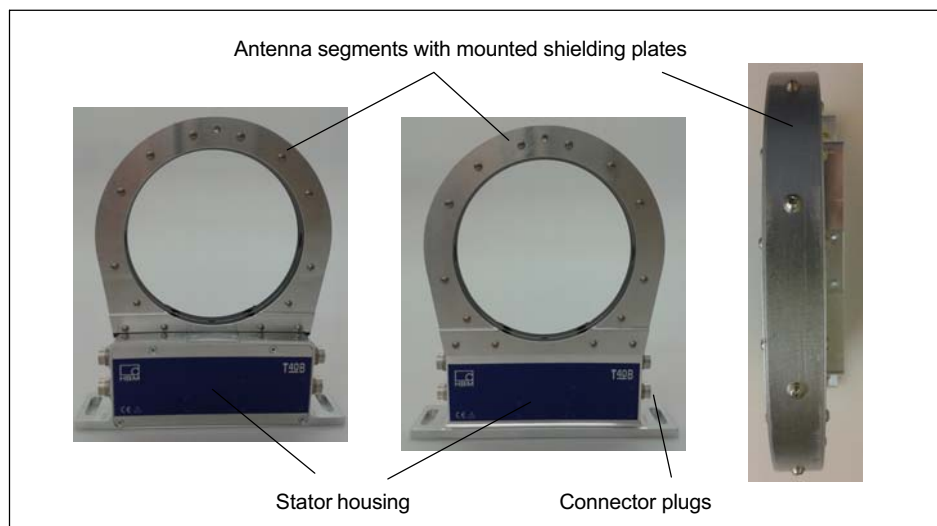

*Fig. 4.2 Mechanical construction with a rotational speed measuring system, Option 7, Code S*
*Mechanical construction with rotational speed measuring System is the same as in Fig. 4.2 with additional shielding plate of antenna ring see Fig. 4.4.*